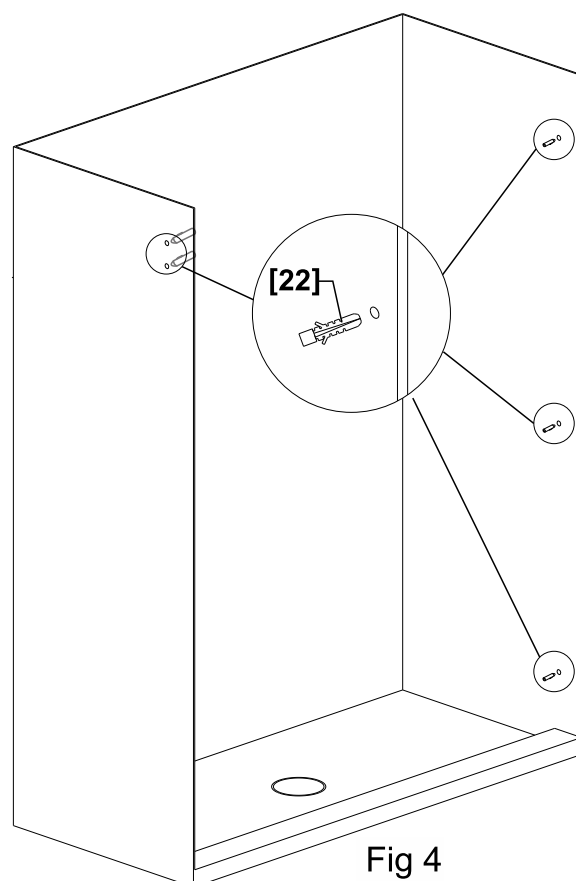

Fig 4
3. To reduce risk of property damage, the use of metal hammers is not recommended. If needed, use drill to slightly enlarge the opening of the hole. (Fig 4)